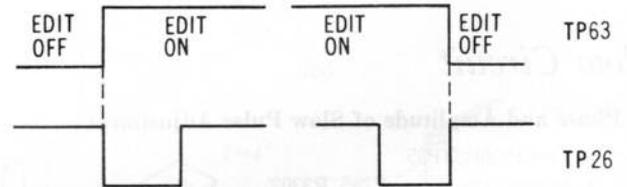

Fig. 45
2. Make sure, in 3 kinds of editing mode, that the waveform becomes as shown in Fig. 45.